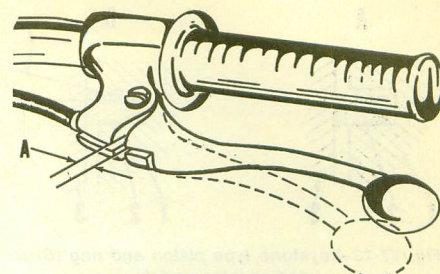
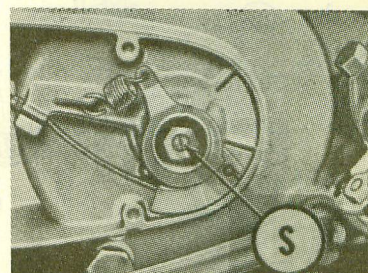

Fig. Y7-9—The clutch hand lever should have 2-3mm free play at (A).
Fig. Y7-10—The clutch adjusting screw (S) is located under the cover on left side of engine.
**CLUTCH CONTROLS.** The clutch hand lever should have 1/16-1/8 inch free play at (A—Fig. Y7-9). To adjust, remove the cover from left side of engine and loosen lock nut. Turn the adjusting screw (S—Fig. Y7-10) in until slight resistance is felt, then back screw out 1/4 turn and tighten lock nut.
Turn the cable guide at hand lever end of cable until the hand lever free play (A—Fig. Y7-9) is correct.